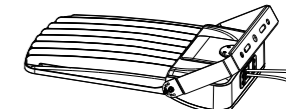

Figure 12
- Step 2: Install two small screws. (Figure 12)